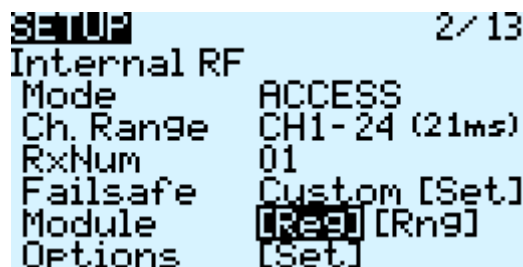

Figure 59: Internal RF
5. Using the ENT knob, scroll down to INTERNAL RF. (Figure 59)